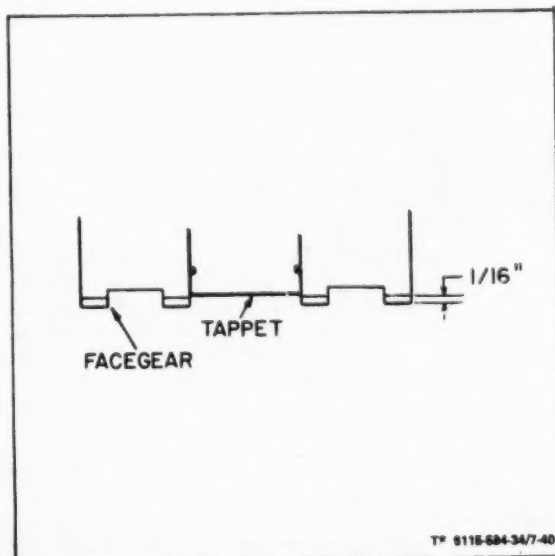
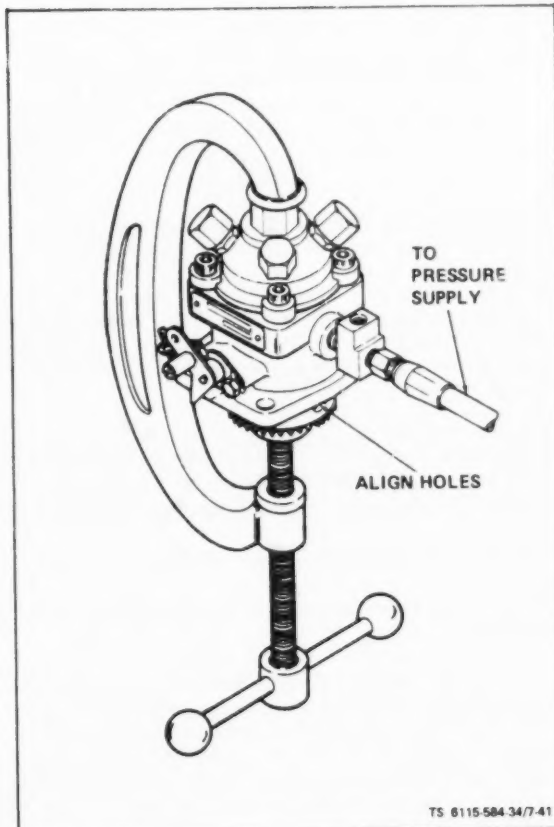

Figure 7-40. Checking Plunger Sleeve Alignment
Figure 7-41. Pressure Testing Injection Pump
(1) Turn pump upside down and depress tappet with thumb. Tappet should recede 1/16" into face gear (figure 7-40). If tappet cannot be depressed 1/16" into face gear, plunger sleeve pin (5, figure 7-34) is improperly aligned. Disassemble pump and re-align pin.
(2) Remove the overflow valve assembly from the fuel outlet hole in the pump housing. Install a 1/4" pipe plug into the fuel outlet hole.
(3) Secure the pump close to a Nozzle Test Stand.
(4) Cap outlet ports (see figure 7-41).
(5) Install C-clamp on injection pumps as shown in figure 7-41 to retain face gear.
(6) Align holes in face gear and housing (see figure 7-41).
(7) Connect the Nozzle Test Stand to the fuel inlet hole in the pump housing.